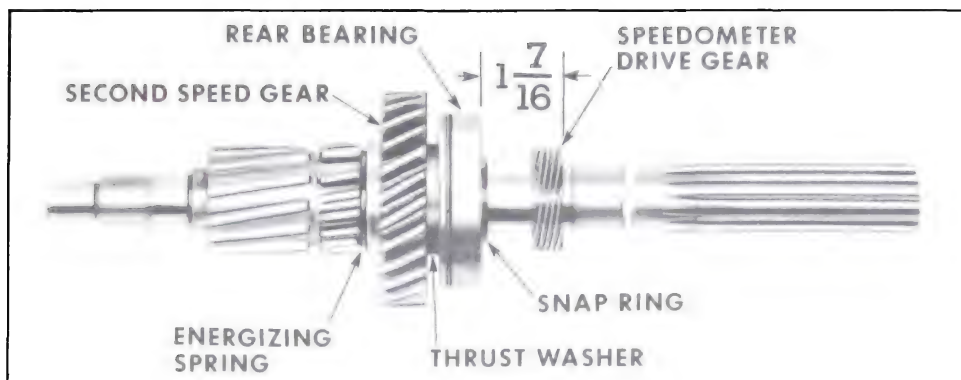

Figure 4-27—Mainshaft Identification
8. Start speedometer drive gear on shaft with chamfered I.D. of gear toward bearing. Press gear on shaft until forward face of gear is 7/8" from face of bearing. See Figure 4-27.